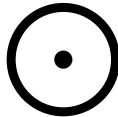

Figure 5.2 Laser pointer with circular border indicating temperature measurement spot
4. Use the Laser pointer to accurately target a spot. Press the Laser pointer button to switch ON the Laser pointer. The TG275 Laser pointer includes a circular spot indicating the area that is being monitored for temperature, utilizing DOE (Diffractive Optical Elements) technology. See the Laser pointer image example below in **Figure 5.2**. If the Laser beam does not appear when the button is pressed, check the menu system (under *Device Settings*) to ensure that the Laser is enabled.